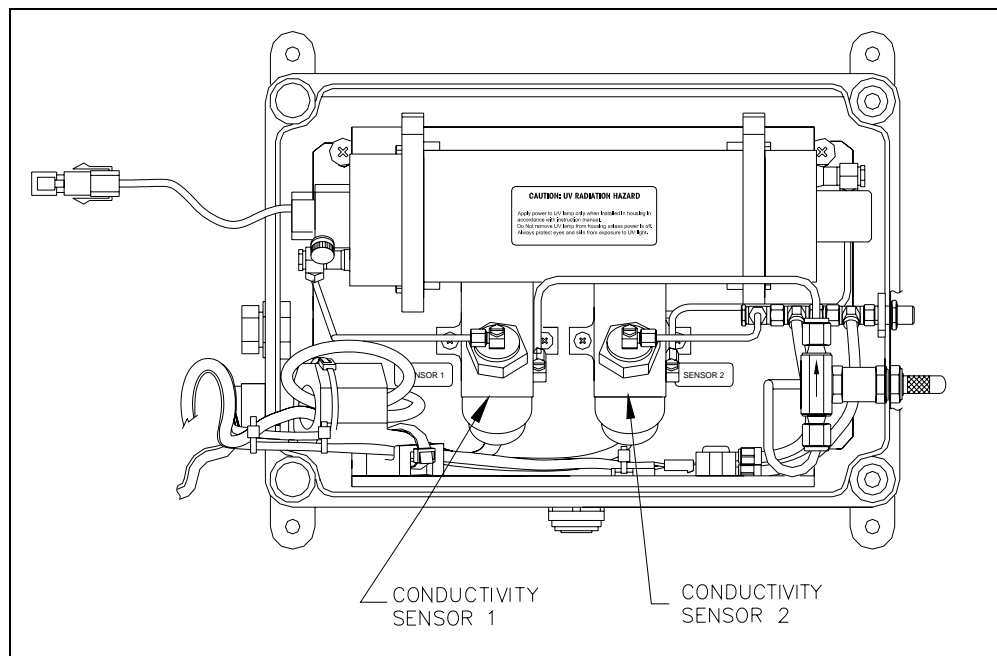

Figure 9. Conductivity/Temperature Sensor Assembly
4. Locate each conductivity sensor. See Figure 9.